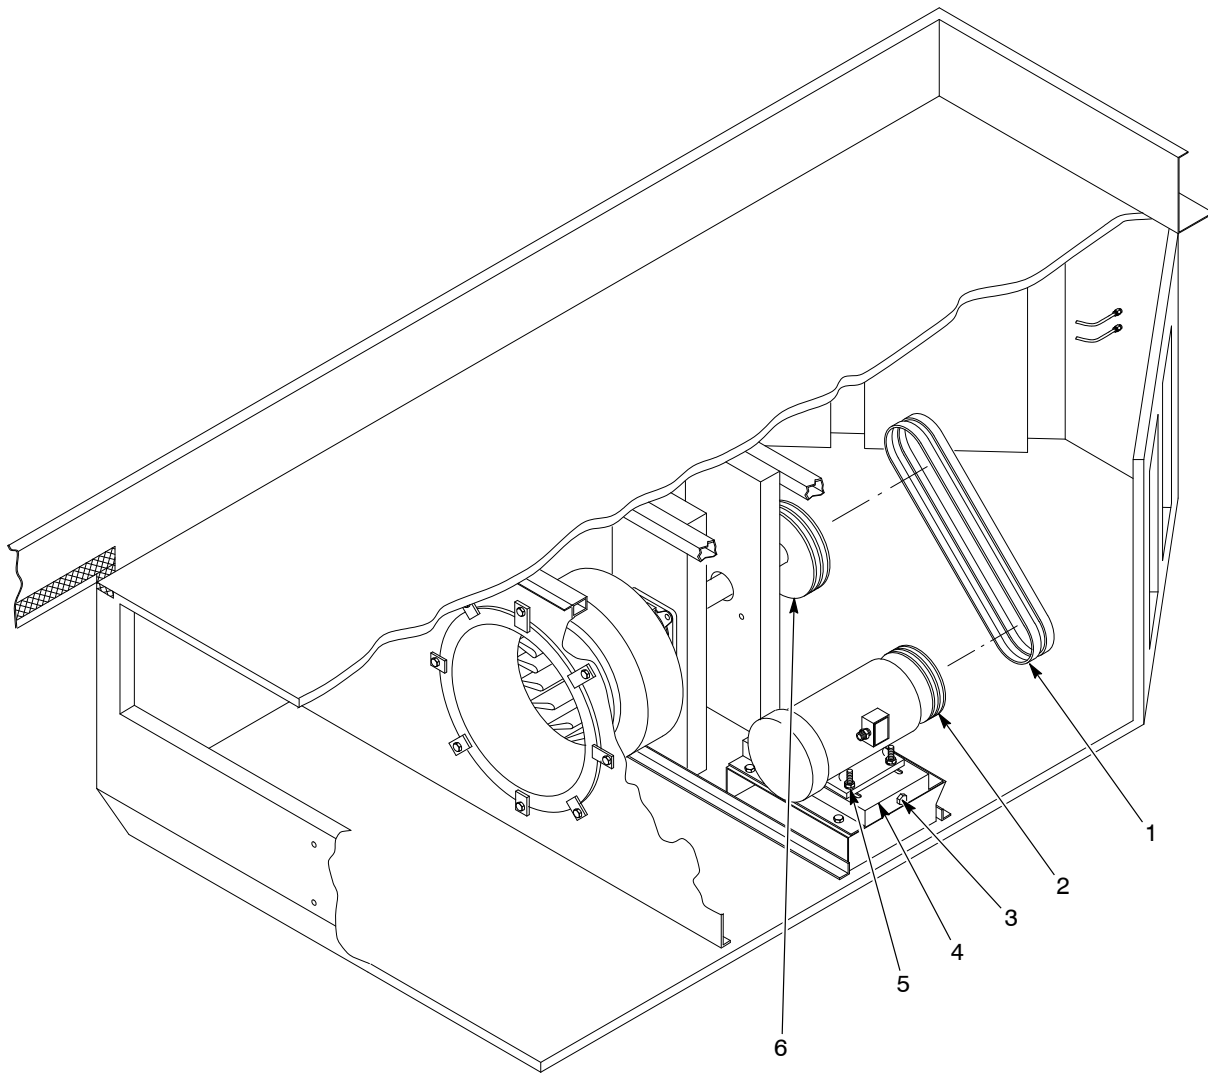

Figure 7-7 V-Belt Replacement
2. See Figure 7-7. Loosen the nuts (5) so the motor can move on its mounting.
3. Turn the tension screw (3) on the end of the motor mounting plate (4) to move the motor toward the fan and loosen the V-belts (1).
4. Rotate the motor and roll the V-belts off the motor sheave (2) and fan sheave (6).
8. Tighten the nuts (5).